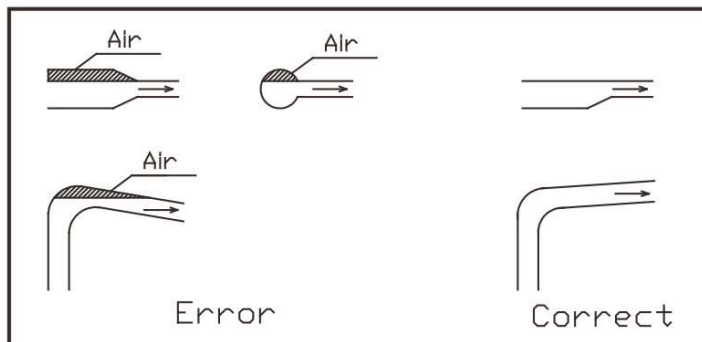

Figure 3
- Keep the intake pipeline away from air bubbles when installing. See Figure 3.